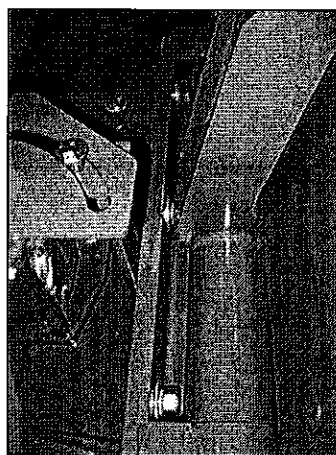

Figure 6
10. Align the slots in the rear half-moon plate and the brush head's pivot angle. Secure with the three (3) 5/8" carriage bolts, flatwashers, lockwashers, and nuts. Install all hardware before tightening (figure 6).